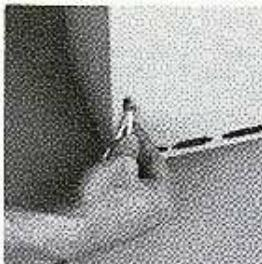

Figure 2-21
- b. Thread the host connector cable through the security slot. (See Figure 2-21.)
- c. Route the cable through the strain-relief clamp on the chassis. Slide the cable through the clamp until the foil is positioned inside it, as shown in Figure 2-21. Tighten the clamp screws.